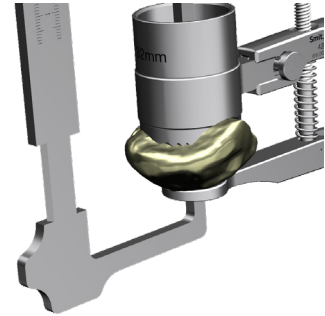

Figure 37
9. If the Round Patella design is selected, use the Caliper to reassess the patella thickness (Figure 37).